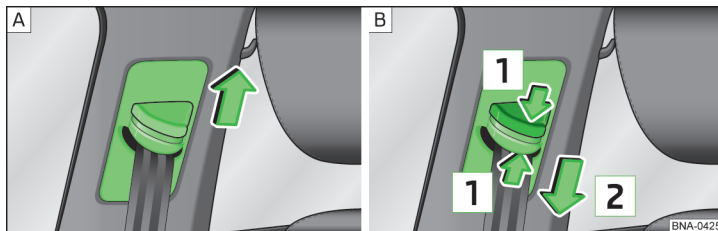

Fig. 4 Seat belt height adjusters for front seats
- Push the return pulley **upwards** in the direction of arrow » fig. 4 - [A].
- **or:** push together the mechanism in the direction of arrows **1** and push the return pulley **downwards** in the direction of arrow **2** » fig. 4 - [B].